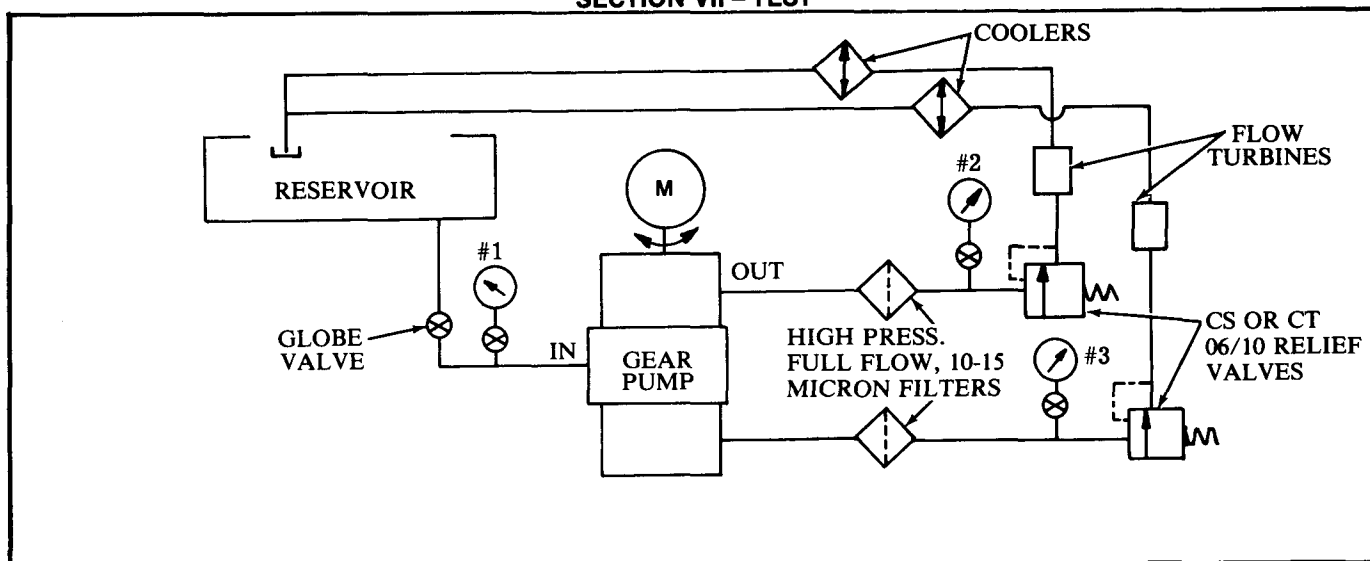

Figure 9. Test Circuit, Double Gear Pump
1. Install gear pump into circuit as shown in Figure 9. Make sure full flow, 10-15 micron high pressure filters are installed at pump outlets. Be sure all connections are tight and the motor is set for proper pump rotation.